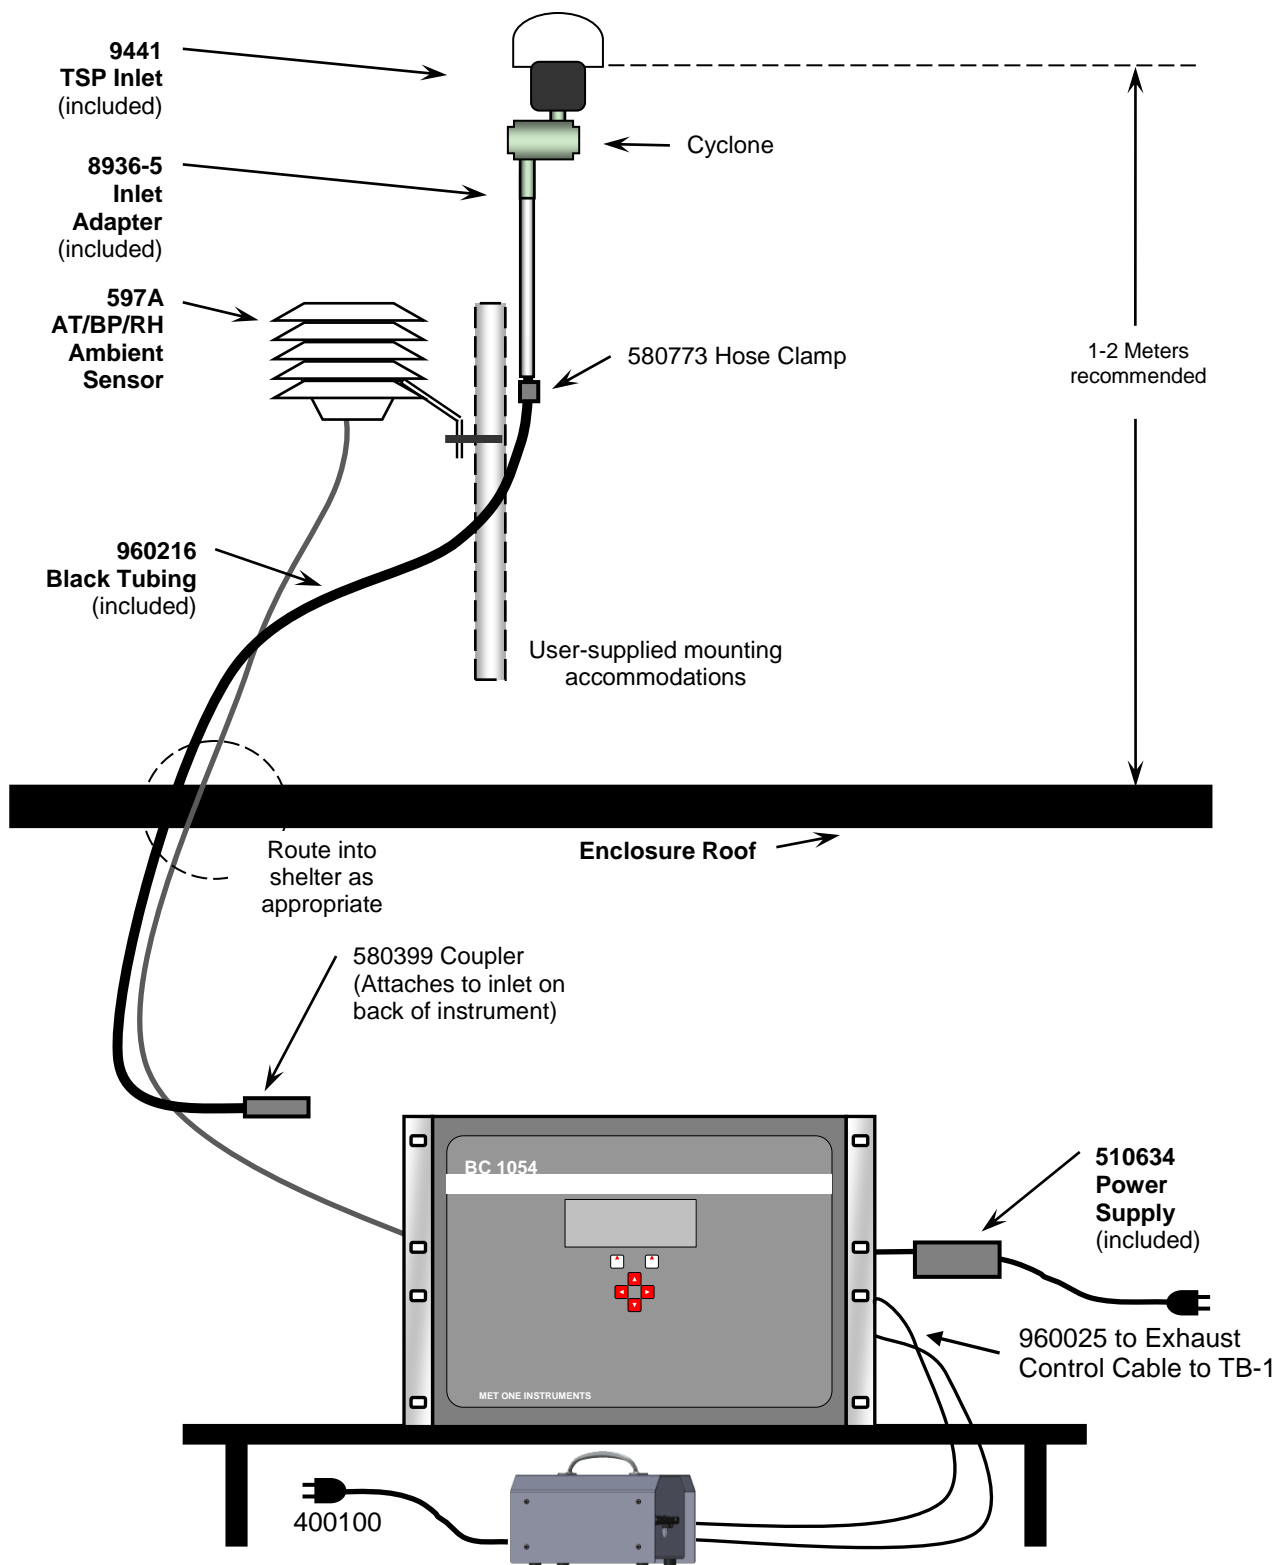

Figure 2-4 Typical BC 1054 Installation in a walk-in shelter
At the sample location, the SCC is coupled directly to the bottom of the 9441 TSP inlet. It is then mounted on the 8936-5 support tube. The flexible ESD sample tubing is then slipped over the barbs on the support tube. A worm-gear hose clamp (pn: 480773) is used to secure the tubing to the support tube. The other end of the sample tubing is routed to the BC 1054, grounded to a terminal on the back of the instrument, and is then installed on the rear of the monitor using a push-to-connect fitting (pn: 580399). See Figure 2-4. Note that this varies from the configuration when using the dilution system (Section 4.2)
5. **Connect the BX-597A AT/BP/RH Ambient Sensor:** The BC 1054 comes with a BX-597A combination ambient temperature, barometric pressure, and relative humidity sensor. The sensor must be mounted to be able to monitor the ambient conditions of the area being sampled (see Figure 2-4).
3. **Connect the BX-597A AT/BP/RH Ambient Sensor:** The BC 1054 comes with a BX-597A combination ambient temperature, barometric pressure, and relative humidity sensor. The sensor must be mounted to be able to monitor the ambient conditions of the area being sampled (see Figure 2-4).